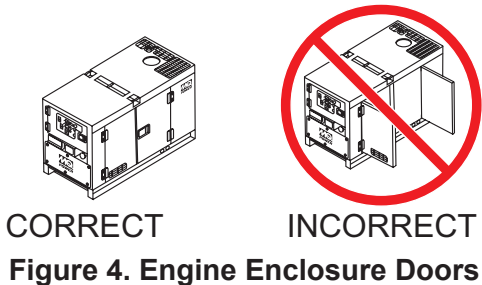

Figure 4. Engine Enclosure Doors
- Close all engine enclosure doors (Figure 4).